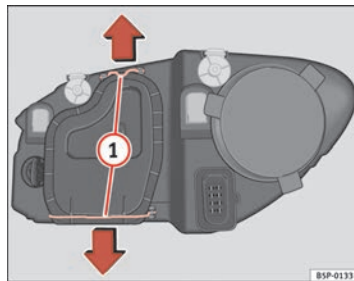

Fig. 181 Dipped head-lights
- Remove the loops ⇒ page 255, fig. 181 ① in the direction of the arrow and remove the cover.